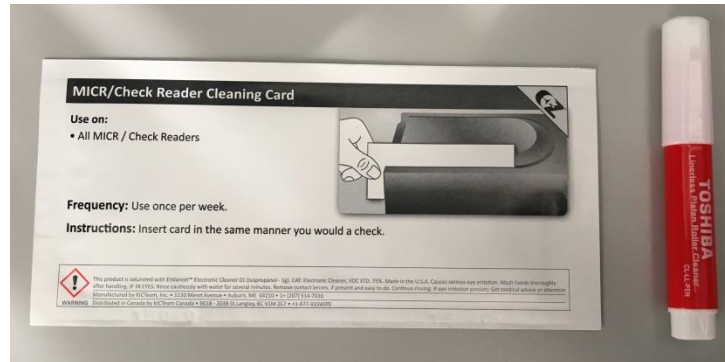

Figure 3 – MICR Cleaning Card, Silicone Cleaning Pen - the color of the pens may vary
3. Clean the Thermal Print Head using any one of the following approved methods (see **Figure 3** for the supplies used for A and B):